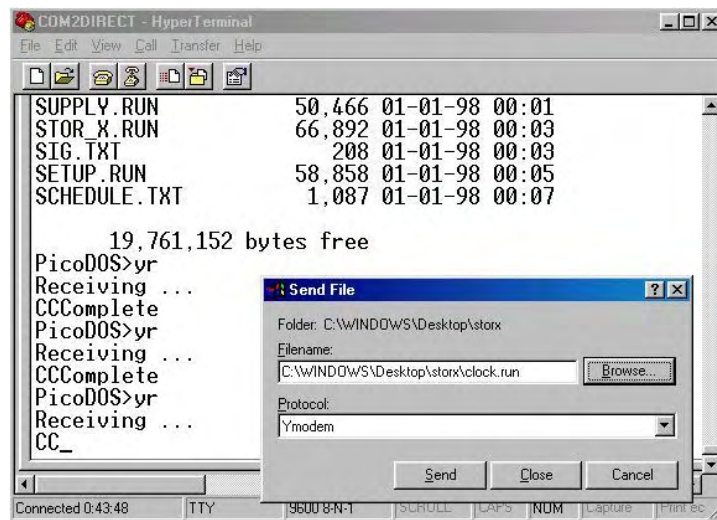

Figure 42 - HyperTerminal – Beginning a Ymodem transfer
14. If the transfer process times out before it is complete, try the transfer again by repeating steps 9 to 13. An example showing the transfer of the file **clock.run** to the STOR-X using a Ymodem transfer is shown in Figure 42.